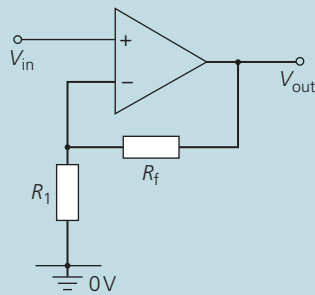

Figure 9
- Figure 9 shows an op-amp in the non-inverting configuration, with $R_1 = 4.7\text{ k}\Omega$ and $R_f = 470\text{ k}\Omega$. What is the value of the closed-loop gain?